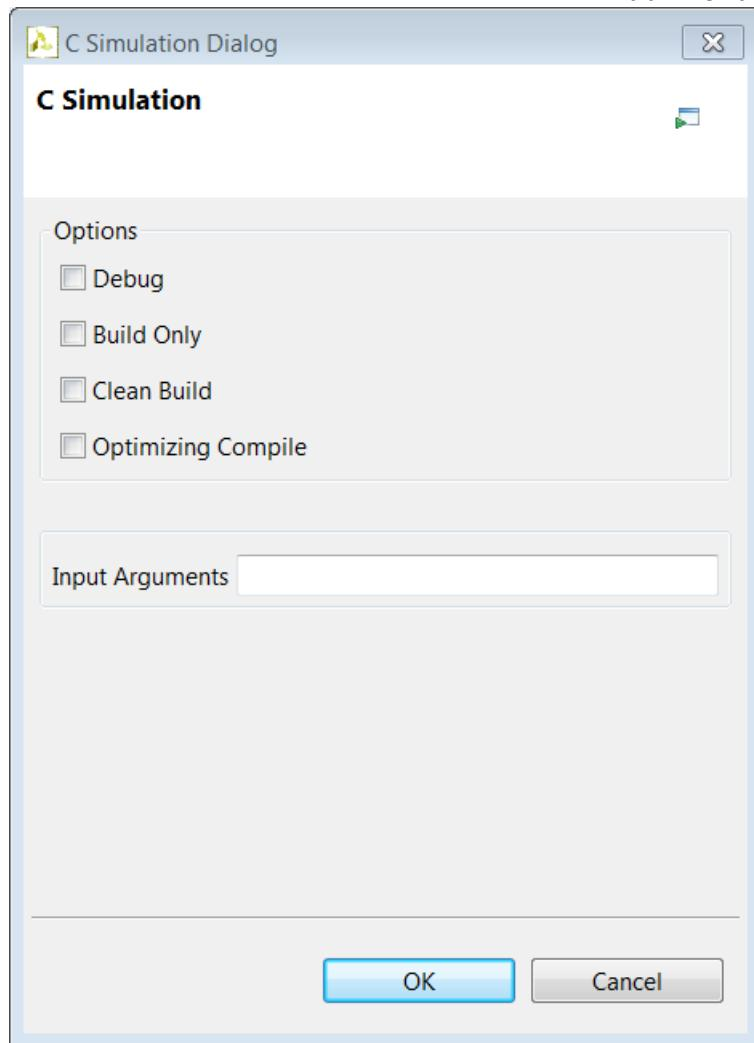

Figure 37 Run C Simulation Dialog box
2. Use the Run C Simulation toolbar button or the menu Project > Run C simulation to open the C Simulation Dialog box in Figure 37.